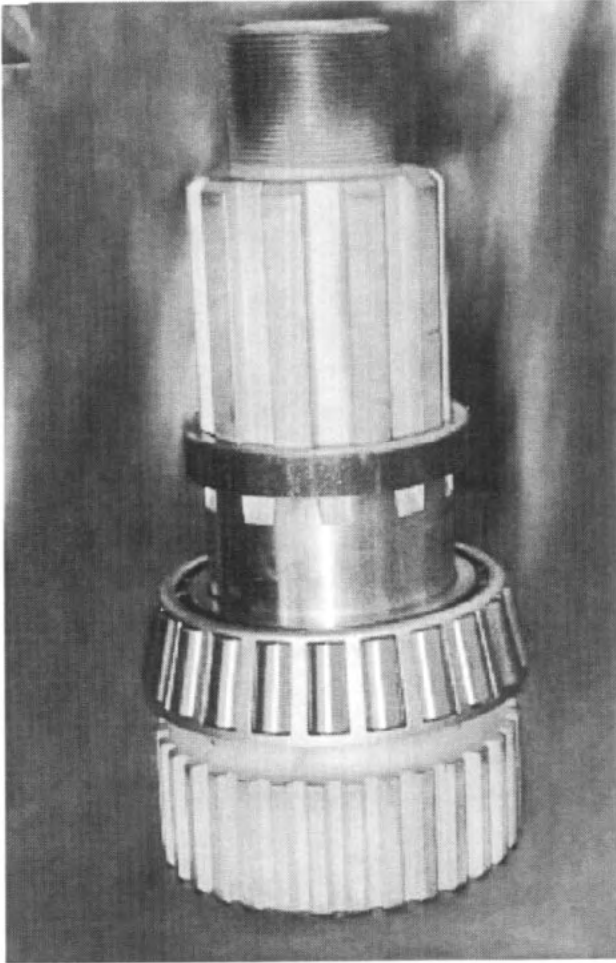

Fig. 52
2. Install the bearing spacer ring against the bearing. *See Fig. 52.*